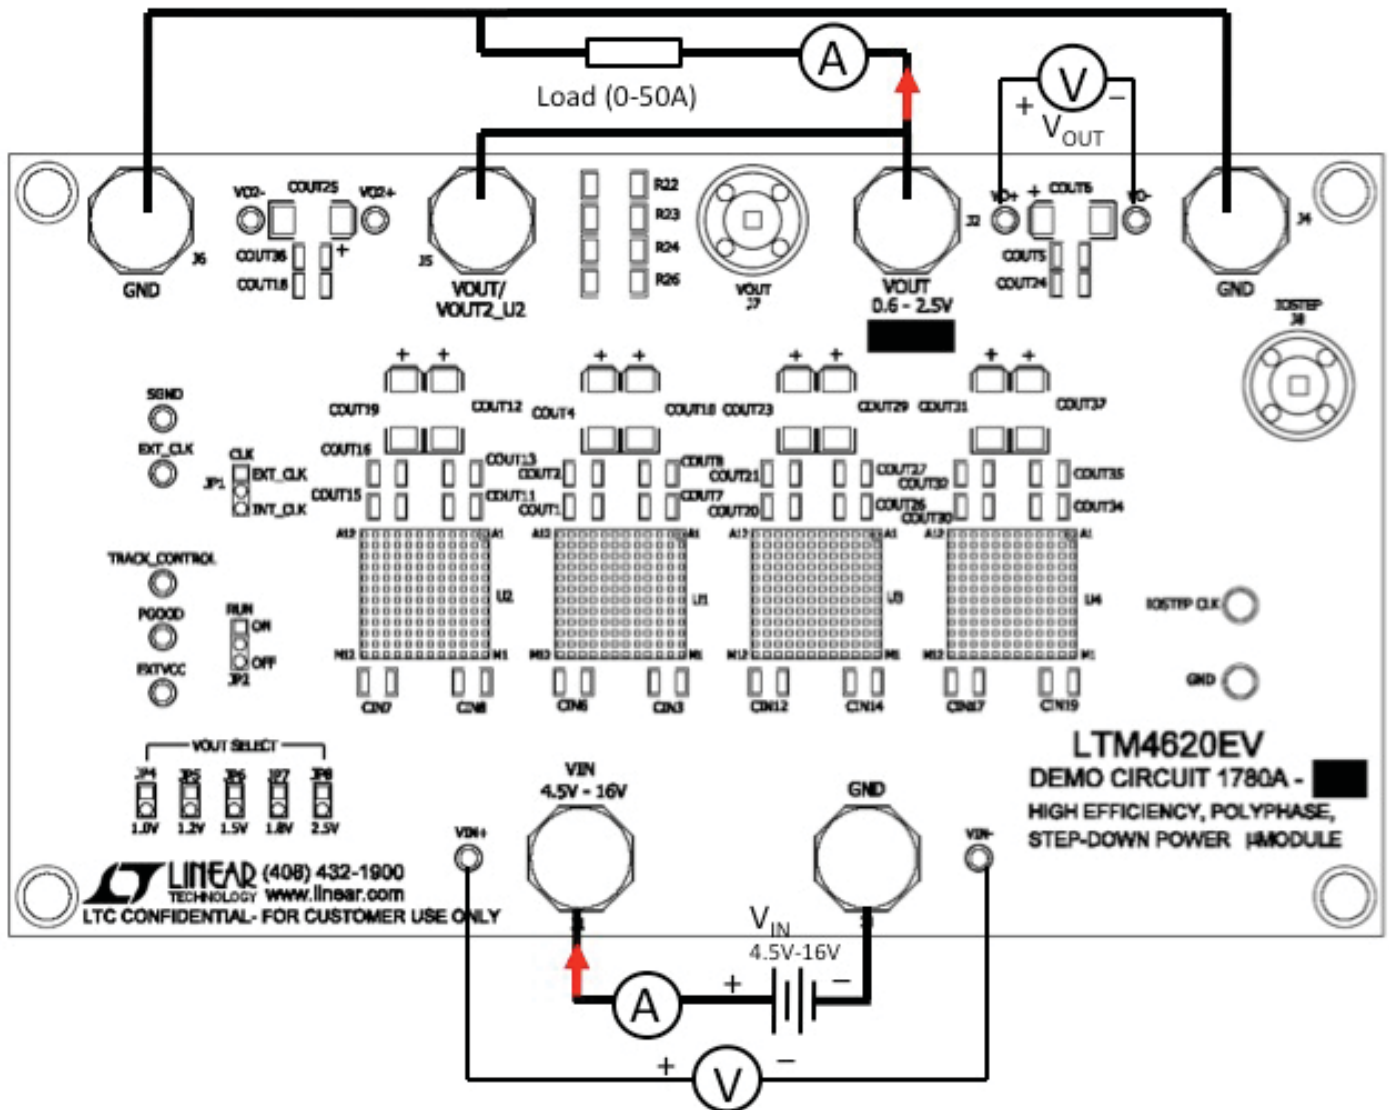

Figure 2. Test Setup of DC1780A-A
Demonstration circuit DC1780A-A is easy to set up to evaluate the performance of PolyPhase operation of the LTM4620EV. Due to the high input/output current, select a proper input supply/load/cable which can sustain the full load operation. Please refer to Figure 2 for proper measurement setup and follow the procedure below:
- With power off, connect the input power supply, load and meters as shown in Figure 2. Preset the load to 0A and V_{IN} supply to 12V.